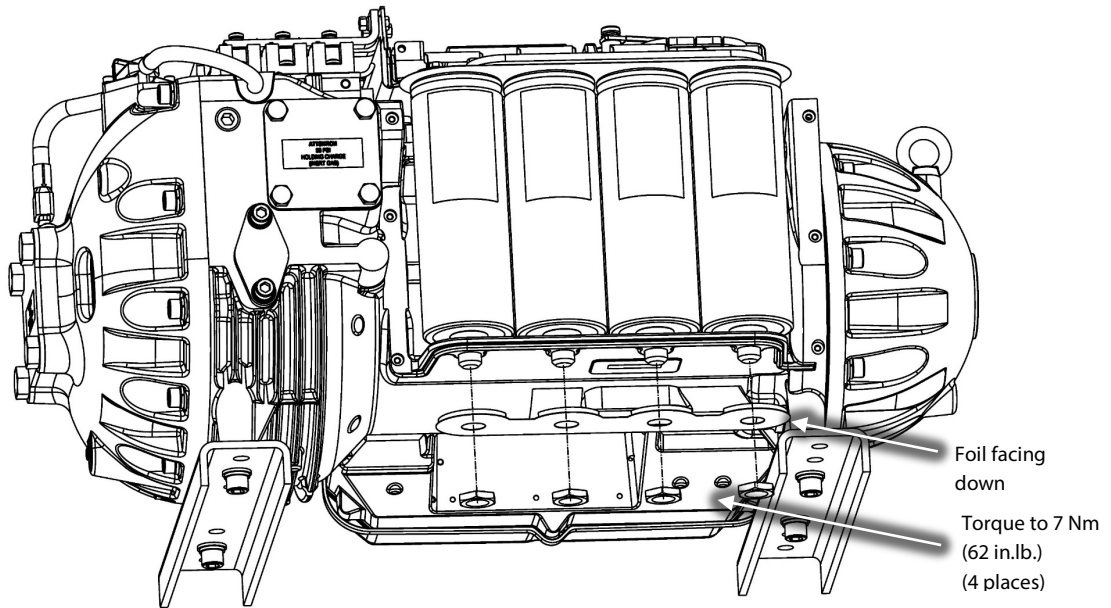

Figure 10 – Capacitor Nut Removal
- Remove the nylon nuts and foil at the base of the DC capacitor assembly, under the main compressor housing. Refer to Figure 10 (Capacitor Nut Removal).
22. Place the capacitor membrane foil side down, underneath the main compressor housing and then reinstall the nylon nuts to the base of the DC capacitor assembly, under the main compressor housing and torque to specification. Refer to Figure 10 (Capacitor Nut Removal).